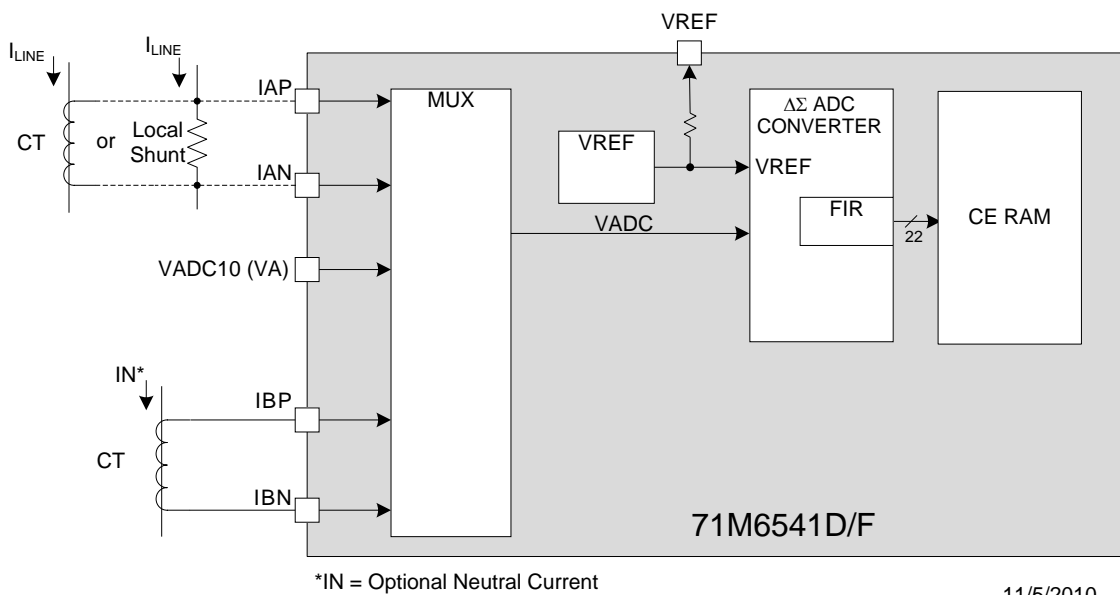
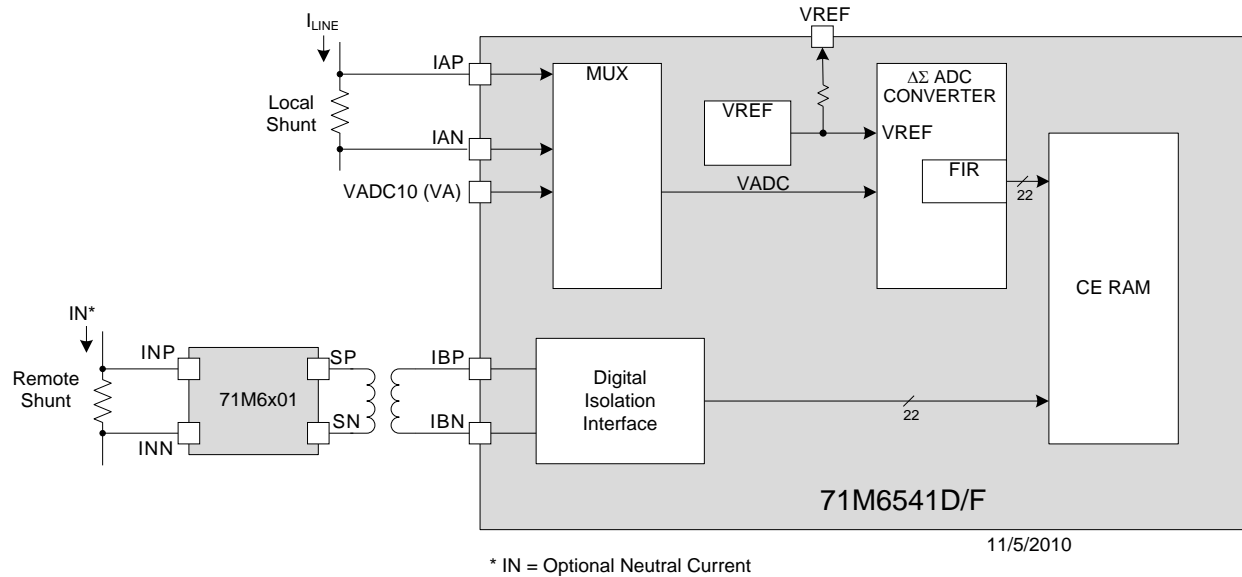
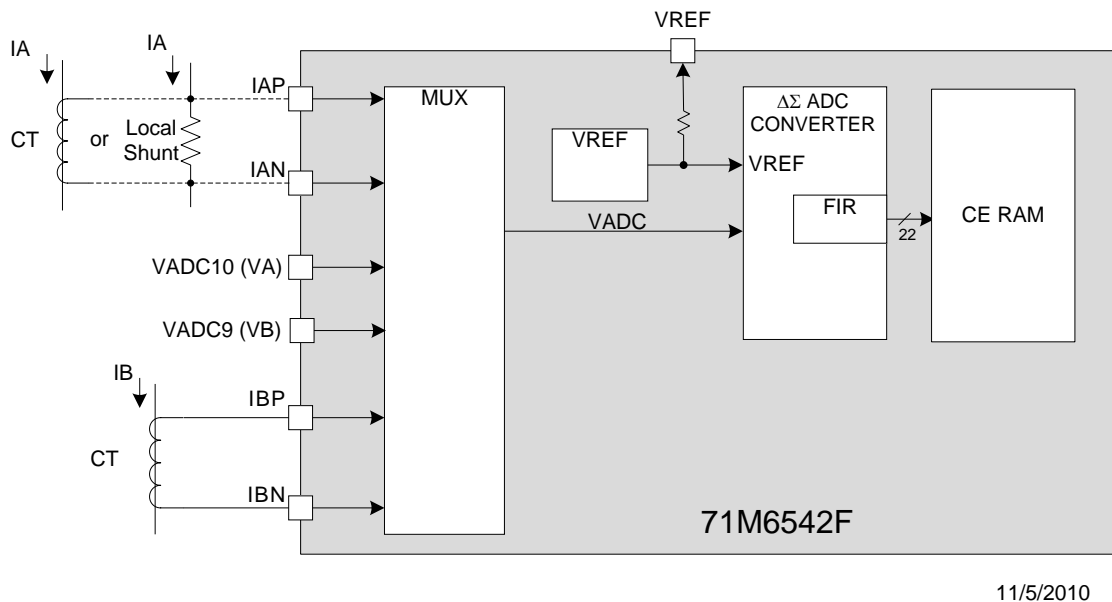
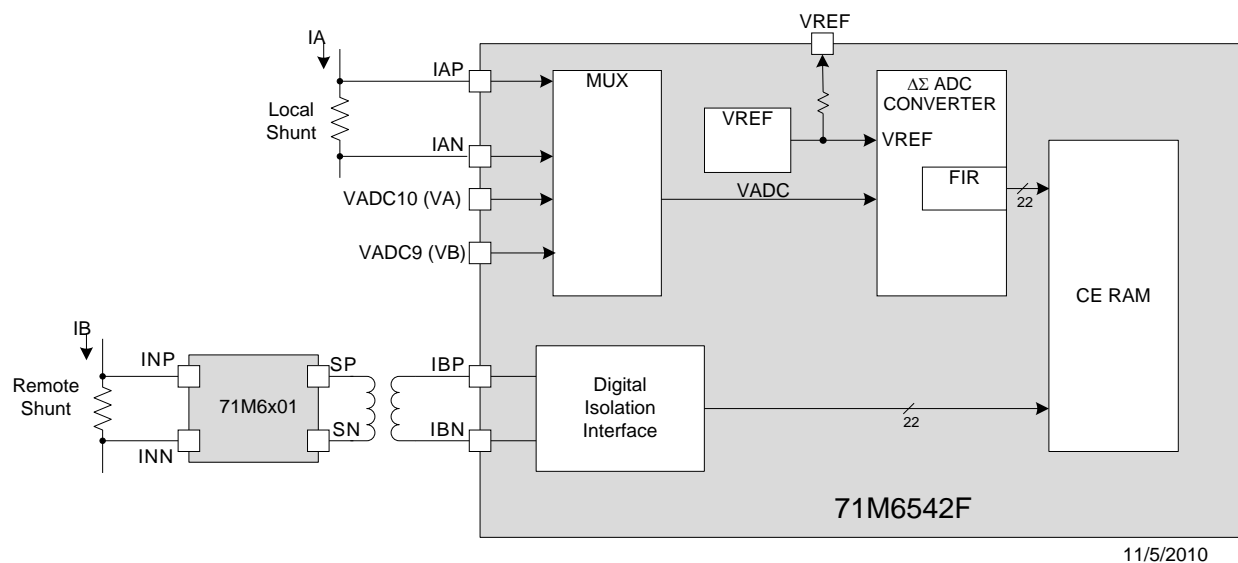

Figure 2. 71M6541D/F/G AFE Block Diagram (Local Sensors)
Figure 3. 71M6541D/F/G AFE Block Diagram with 71M6x01
Figure 4. 71M6542F/G AFE Block Diagram (Local Sensors)
Figure 5. 71M6542F/G AFE Block Diagram with 71M6x01
The AFE functions as a data acquisition system, controlled by the MPU. When used with locally connected sensors, as seen in Figure 2, the analog input signals (IAP-IAN, VA and IBP-IBN) are multiplexed to the ADC input and sampled by the ADC. The ADC output is decimated by the FIR filter and stored in CE RAM where it can be accessed and processed by the CE.
See Figure 6 for the multiplexer sequence corresponding to Figure 2. See Figure 35 for the meter configuration corresponding to Figure 2.
Figure 3 shows the 71M6541D/F/G multiplexer interface with one local and one remote resistive shunt sensor. As seen in Figure 3, when a remote isolated shunt sensor is connected via the 71M6x01, the samples associated with this current channel are not routed to the multiplexer, and are instead transferred digitally to the 71M6541D/F/G via the digital isolation interface and are directly stored in CE RAM.
See Figure 6 for the multiplexer timing sequence corresponding to Figure 3. See Figure 36 for the meter configurations corresponding to Figure 3.
Figure 4 shows the 71M6542F/G AFE with locally connected sensors. The analog input signals (IAP-IAN, VA, IBP-IBN and VB) are multiplexed to the ADC input and sampled by the ADC. The ADC output is decimated by the FIR filter and stored in CE RAM where it can be accessed and processed by the CE.
See Figure 7 for the multiplexer timing sequence corresponding to Figure 4. See Figure 37 for the meter configuration corresponding to Figure 4.
Figure 5 shows the 71M6542F/G multiplexer interface with one local and one remote resistive shunt sensor. As seen in Figure 5, when a remote isolated shunt sensor is connected via the 71M6x01, the samples associated with this current channel are not routed to the multiplexer, and are instead transferred digitally to the 71M6542F/G via the digital isolation interface and are directly stored in CE RAM.
See Figure 6 for the multiplexer timing sequence corresponding to Figure 5. See Figure 38 for the meter configurations corresponding to Figure 5.
All analog signal input pins measure voltage. In the case of shunt current sensors, currents are sensed as a voltage drop in the shunt resistor sensor. Referring to Figure 3, shunt sensors can be connected directly to the 71M654x (referred to as a 'local' shunt sensor) or connected via an isolated 71M6x01 (referred to as a 'remote' shunt sensor). In the case of Current Transformers (CT), the current is measured as a voltage across a burden resistor that is connected to the secondary winding of the CT. Meanwhile, line voltages are sensed through resistive voltage dividers. The VA and VB pins (VB is available in the 71M6542F/G only) are single-ended and their common return is the V3P3A pin.
For the 71M654x application utilizing two shunt resistor sensors (Figure 3), the IAP-IAN pins are configured for differential mode to interface to a local shunt by setting the *DIFFA\_E* control bit. Meanwhile, the IBP-IBN pins are re-configured as digital balanced pair to communicate with a 71M6x01 Isolated Sensor interface by setting the *RMT\_E* control bit (I/O RAM 0x2709[3]). The 71M6x01 communicates with the 71M654x using a bi-directional digital data stream through an isolating low-cost pulse transformer. The 71M654x also supplies power to the 71M6x01 through the isolating transformer. This type of interface is further described at the end of this chapter (see 2.2.8 71M6x01 Isolated Sensor Interface (Remote Sensor Interface)).
For use with Current Transformers (CTs), as shown in Figure 2, the *RMT\_E* control bit is reset, so that the IBP-IBN pins are configured as local analog inputs. The IAP-IAN pins cannot be configured as a remote sensor interface.
When operating with local sensors, the input multiplexer sequentially applies the input signals from the analog input pins to the input of the ADC (see Figure 2 and Figure 4). One complete sampling sequence is called a multiplexer frame. The multiplexer of the 71M6541D/F can select up to three input signals (IAP-IAN, VA, and IBP-IBN) per multiplexer frame as controlled by the I/O RAM control field *MUX\_DIV[3:0]* (I/O RAM 0x2100[7:4]) (see Figure 6). The multiplexer of the 71M6542F/G adds the VB signal to achieve a total of four inputs (see Figure 7). The multiplexer always starts at state 1 and proceeds until as many states as determined by *MUX\_DIV[3:0]* have been converted.
The 71M6541D/F/G and 71M6542F/G each require a unique CE code that is written for the specific application. Moreover, each CE code requires specific AFE and MUX settings in order to function properly. Table 1 provides the CE code and settings corresponding to the local sensor configurations shown in Figure 2 and Figure 4. Table 2 provides the CE code and settings corresponding to the local/remote sensor configuration utilizing the 71M6x01 as shown in Figure 3 and Figure 5.
For a standard single-phase application with tamper sensor in the neutral path, two current inputs can be configured for differential mode, using the pin pairs IAP-IAN and IBP-IBN. This means that the multiplexer applies a total of three inputs to the ADC. In this application, the system design may use two locally connected current sensors via IAP-IAN and IBP-IBN, as shown in Figure 2, and configured as differential inputs. Alternately, the IAP-IAN pin pair is configured as a differential input and connected to a local current shunt, and IBP-IBN is configured to connect to an isolated 71M6x01 isolated sensor (i.e., *RMT\_E* = 1), as shown in Figure 3. The VA pin is typically connected to the phase voltage via resistor dividers. For this configuration, the multiplexer frame is also as shown in Figure 6 and time slot 2 is unused and ignored by the CE, as the samples corresponding to the remote sensor (IBP-IBN) do not pass through the multiplexer and are stored directly in CE RAM. The remote current sensor channel is sampled during the second half of the multiplexer frame and its timing relationship to the VA voltage is precisely known so that delay compensation can be properly applied.
processed with locally connected sensors, as shown in Figure 3. When using one local and one remote sensor (Figure 5), the multiplexer sequence is also as shown in Figure 7.